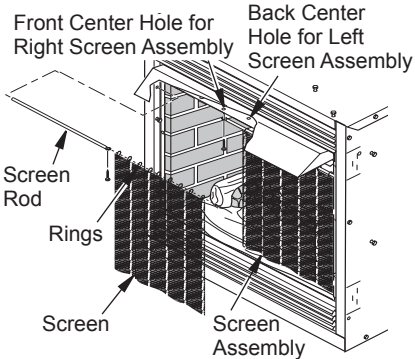

Figure 39 - Installing Screen for Models CDCFNR/CDCFPR
5. Insert each rod through ten rings located at top of screen (see Figure 39, see page 22).
6. Insert first rod into hole in left side of firebox. Fasten rod to rear hole near center of firebox using black Phillips head screw (see Figure 39).